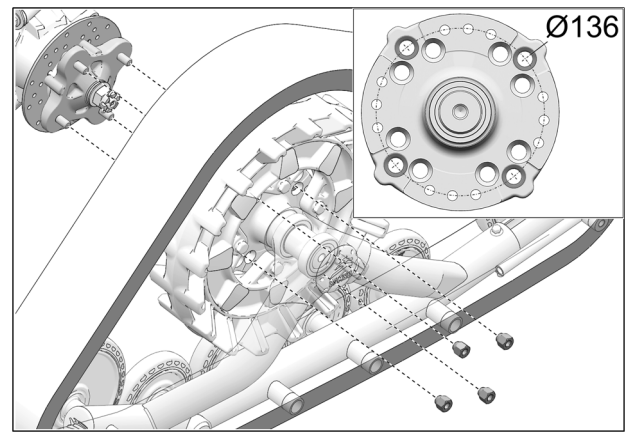

Fig. 16
- Secure undercarriage to front hub using the vehicle's own lug nuts. Use bolt circle  $\text{Ø}136\text{mm}$ . See Fig. 16